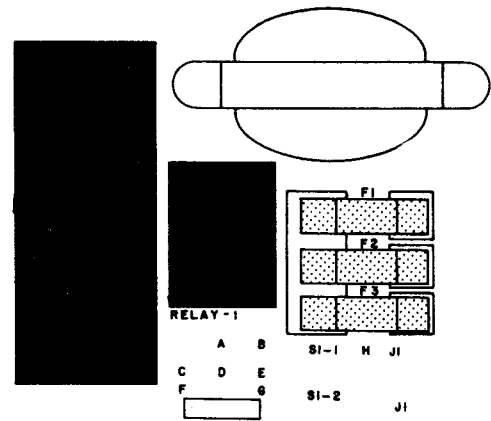

Figure 3-17. Fuse Installation
- () Carefully insert fuses F1 (1A), F2 (1/2A) and F3 (3A) into the clips. Be sure that the clips hold the fuse securely in place (Figure 3-17).